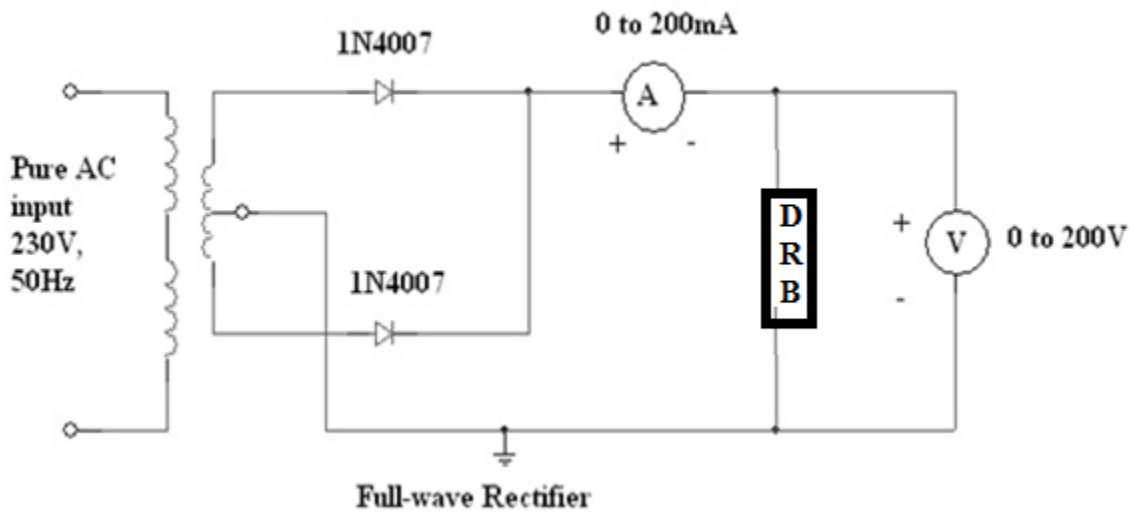

Fig. 2: Circuit diagram of Full wave rectifier
1. Connect the circuit as shown in the fig.2.